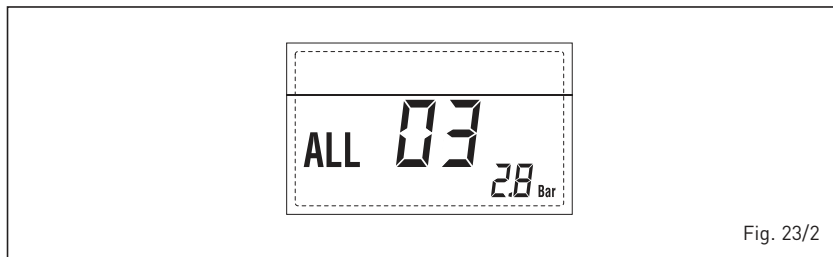

Fig. 23/2
– **ANOMALIE SONDE DEPART CHAUFFAGE "ALL 05" (fig. 23/4)**